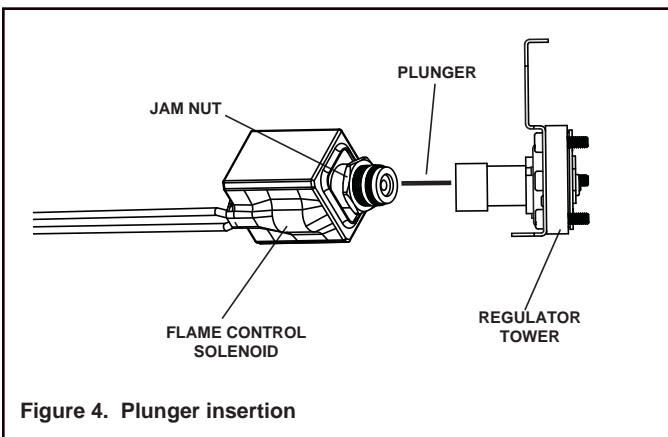
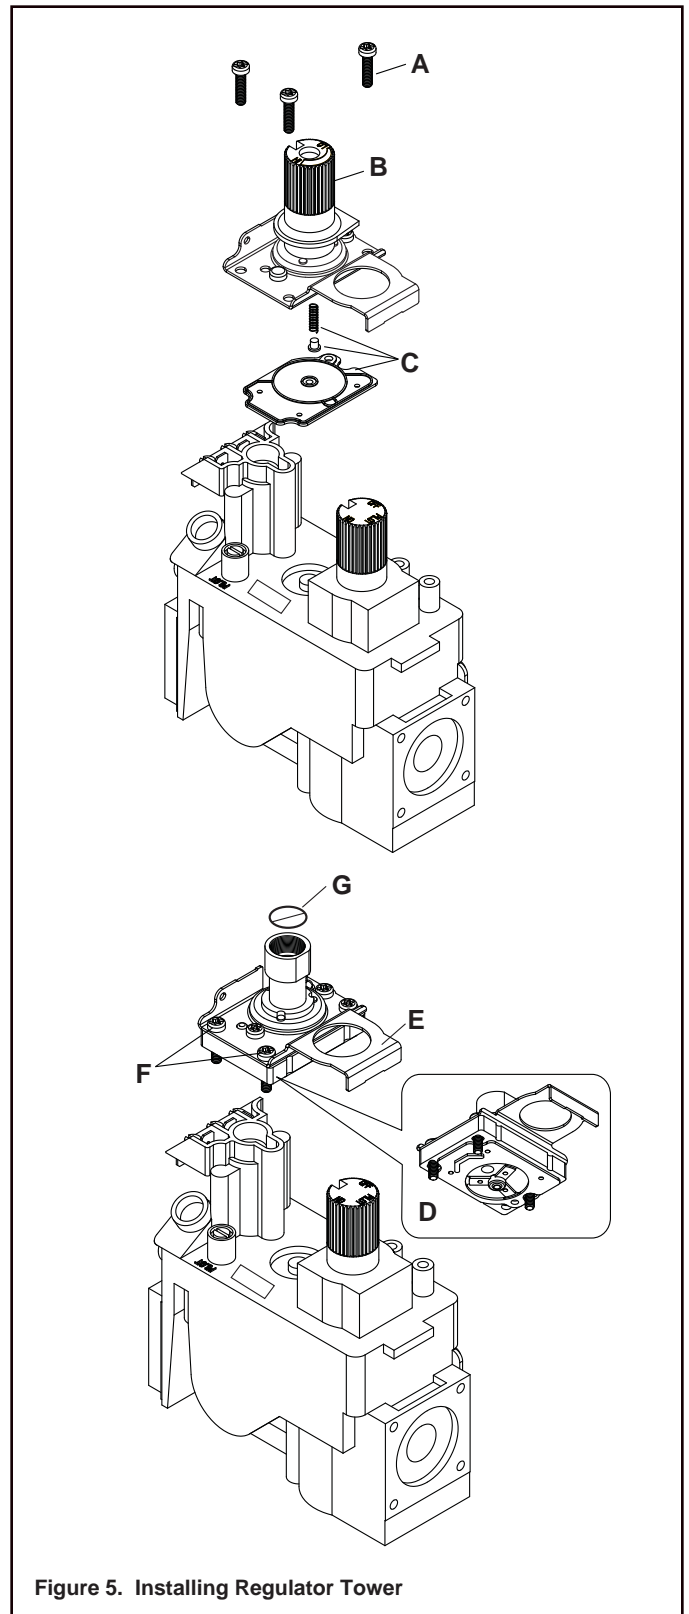
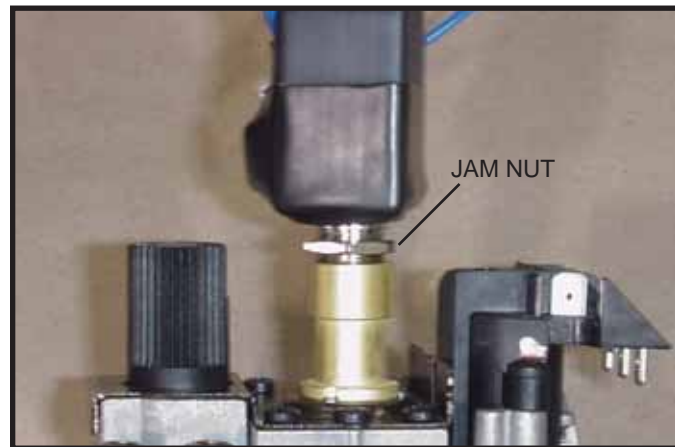

Figure 4. Plunger insertion
Figure 5. Installing Regulator Tower
Figure 7.
1. Using a Torx T20, or slotted screwdriver, remove and discard the three pressure regulator mounting screws (A), pressure regulator tower (B), and the spring and diaphragm assembly (C) See Figure 5.
2. Ensure the rubber gasket (D), which is pre-fitted as part of assembly (E), is properly positioned and install the new pressure regulator tower using the supplied screws (F). Tighten screws securely (Reference torque = 25 lb-in.) and remove cover screw (G).
3. Insert the correct plunger into the flame control solenoid (**BLUE = NATURAL GAS, RED = PROPANE**). See Figure 4.
3. Install Flame Control Solenoid by turning it into the regulator tower five complete rotations clockwise. See Figure 7.
6. Tighten jam nut (Figure 4 and Figure 7) to the face of the regulator tower body.